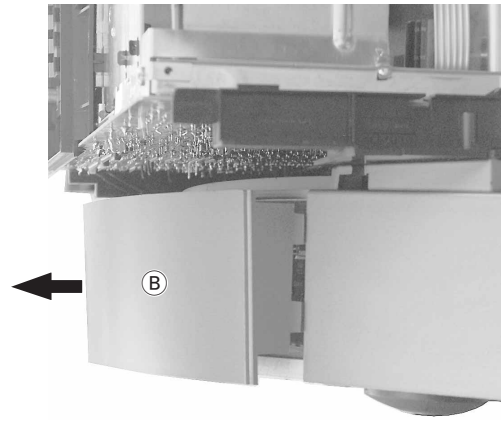
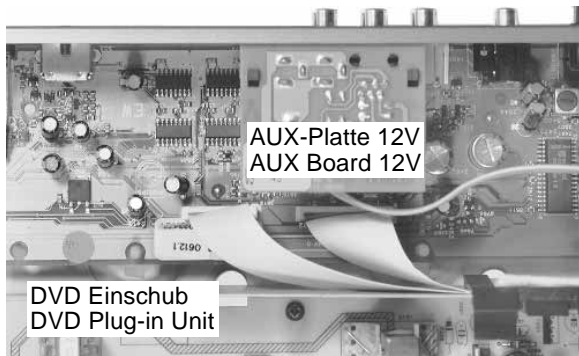
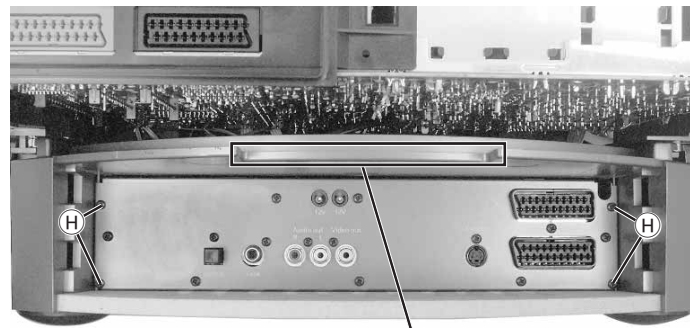

Fig. 4
Fig. 13
Fig. 12
- Das EURO-AV-Kabel in die Aussparung ① (Fig. 12) im TV-Gerätesockel verlegen und die TV-Gerätesockelabdeckung ② (Fig. 4) montieren.
- Carefully tilt the TV set to the front and pull off from below toward the back the TV base cover ② (Fig. 4).
- Undo the 4 screws ⑧ (Fig. 12) and carefully remove the sheet-metal cover together with the "AUX board 12V". If necessary disengage the two-pin connector ST-FF1 on the "AUX board 12V". Unscrew the "AUX board 12V" from the sheet-metal cover. Refit the connector ST-FF1 and fit the "AUX board 12V" correctly positioned into the DVD plug-in unit (the two 12V sockets on the "AUX board 12V" must coincide with the openings in the sheet-metal cover) (Fig. 13).
- Pull out the chassis only so far that the leads can be pulled toward the top through the front opening in the TV set base when sliding in the DVD plug-in unit. Fix the DVD plug-in unit with the 4 screws ⑨ (Fig. 12).
- Install the EURO-AV cable in the opening (I) (Fig. 12) in the TV base then fit the TV base cover (B) (Fig. 4) .